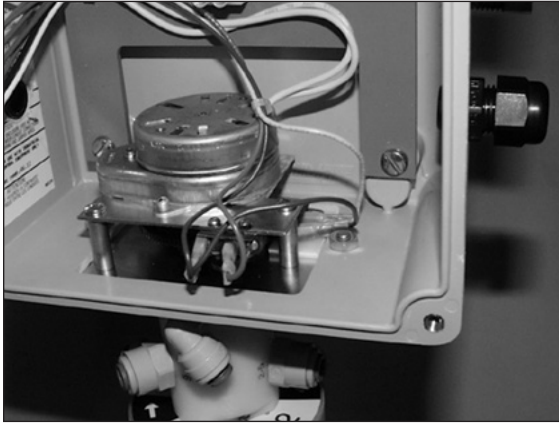
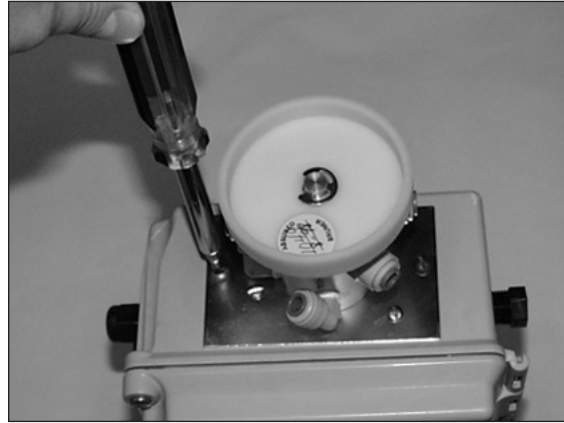

Figure 115.
Figure 116.
3. Disconnect the four quick connect wire leads from the microswitches. Also disconnect the two motor leads from the circuit board. See Figure 115 and Figure 116.
3. Install the replacement pilot valve drive motor assembly making certain that the gears and assembly are properly engaged. Securely tighten the 3 screws and reconnect the motor leads (Figure 116).